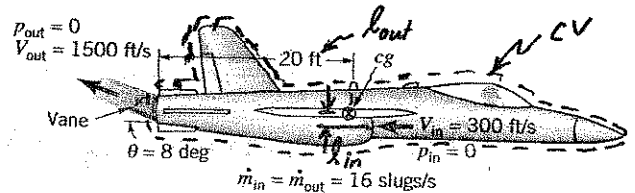

FIGURE P5.76
5.76 Thrust vector control is a new technique that can be used to greatly improve the maneuverability of military fighter aircraft. It consists of using a set of vanes in the exit of a jet engine to deflect the exhaust gases as shown in Fig. P5.76. (a) Determine the pitching moment (the moment tending to rotate the nose of the aircraft up) about the aircraft's mass center (cg) for the conditions indicated in the figure. (b) By how much is the thrust (force along the centerline of the aircraft) reduced for the case indicated compared to normal flight when the exhaust is parallel to the centerline?